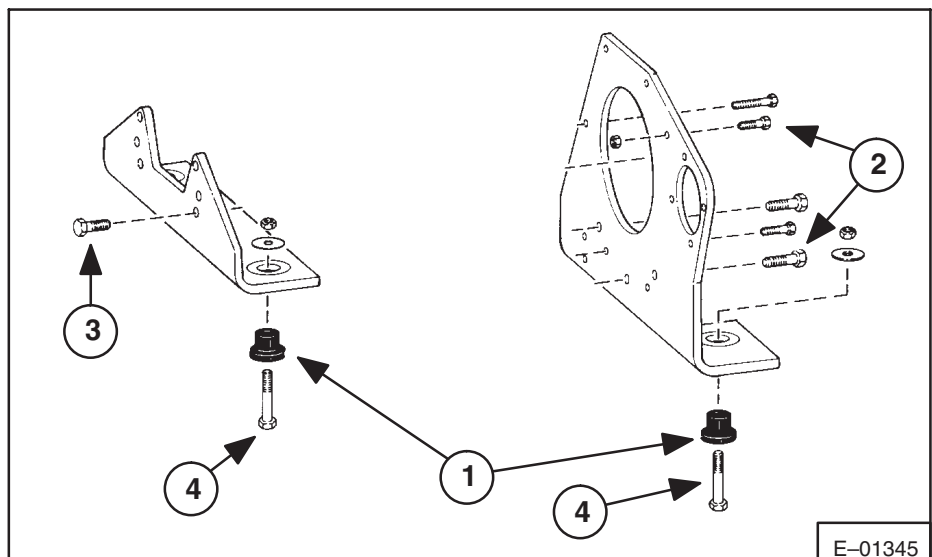

Fig. 7A-130 Engine Mounts
5. Install the four bolts (Fig. 7A-130, Item 4) and tighten to 90–100 ft.-lbs. (125–135 Nm) torque.
1. Remove the grill (Fig. 7A-131).
2. Remove the clamp (Fig. 7A-132).